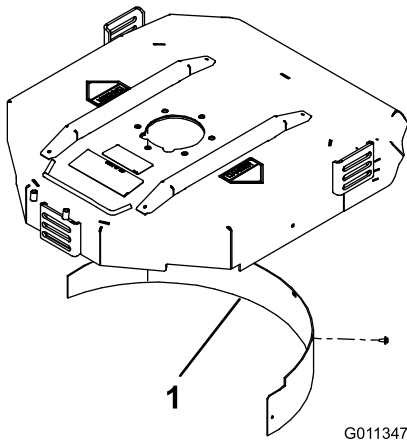

Figure 20
2. Install the mulching baffle in the rear opening and secure it with 5 flange head bolts (Figure 20).